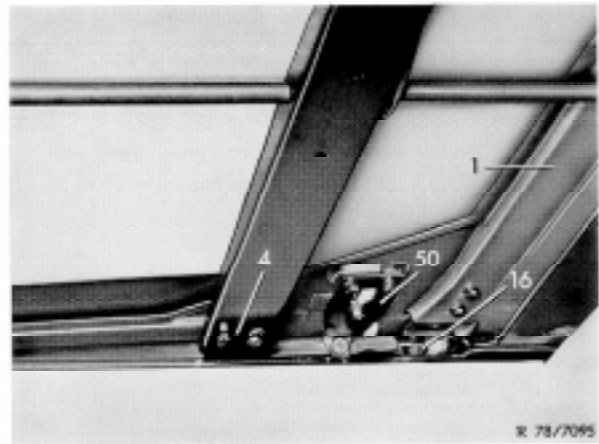

Fig. 3
3 Close sliding roof and unscrew locking screw (16) left and right (Fig. 3).